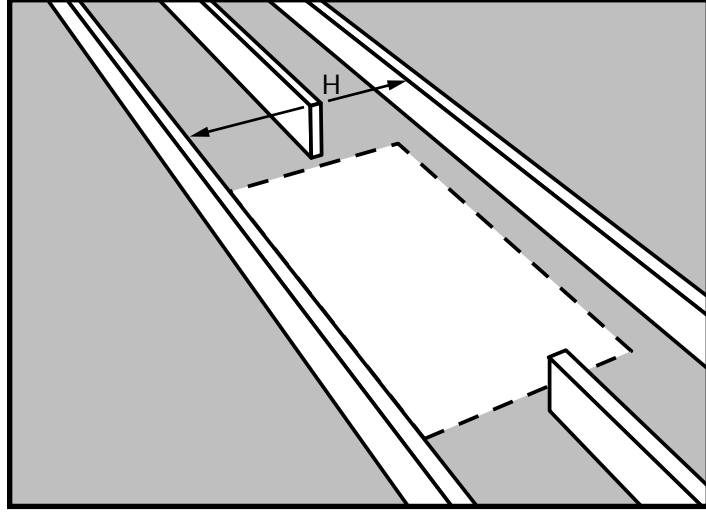

Figure 15
- STEP 1. Measure the header length "H" between the uncut joists as shown in Figure 15.